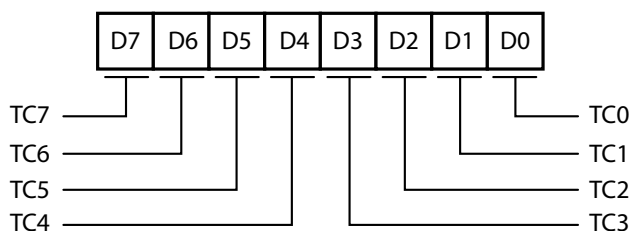

Figure 17. CTC Time Constant Word
**Time Constant Word.** Before a channel can start counting, it must receive a time constant word. The time constant value can be anywhere between 1 and 256, with 0 being accepted as a count of 256. See Figure 17.